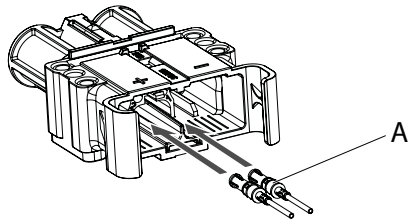

Fig. 44:
1. Push the pilot contacts (*Fig. 44/A*) with the crimped wires into the contact chambers of the pre-installed pilot contact adapter as far as they will go until the retaining clip clicks into place.